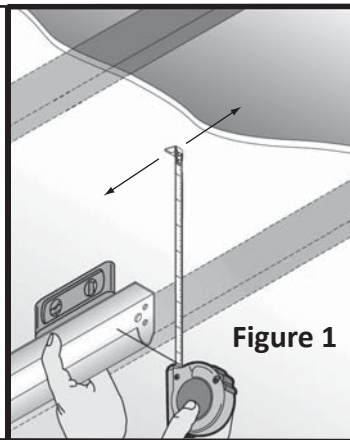

Figure 1
Step 1: (Right Side shown) Keeping the horizontal track square, level, and parallel to each other, mark a spot on your ceiling directly above the end of the horizontal track (Fig 1).